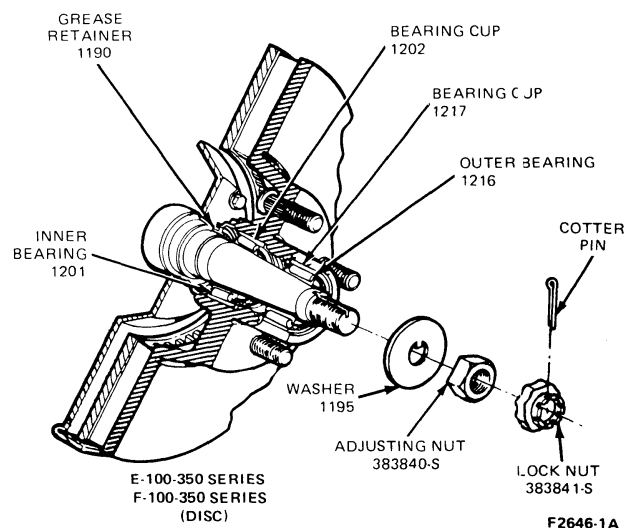

FIG. 1 Front Hubs and Rotor Assembly Bearings and Grease Retainers F-100-F-350 (4x4) and E-100-E-350
Each front wheel and tire assembly is bolted to its respective front hub and rotor assembly. Two opposed tapered roller bearings are installed in each hub, (Fig. 1). A grease retainer is installed at the inner end of the hub to prevent lubricant from leaking onto the rotor. The entire assembly is retained to its spindle by the lock nut or adjusting nut washer and cotter pin.
3. Back off the adjusting nut 1/8 turn and install locknut and cotter pin without additional movement of adjusting nut (Fig. 1).